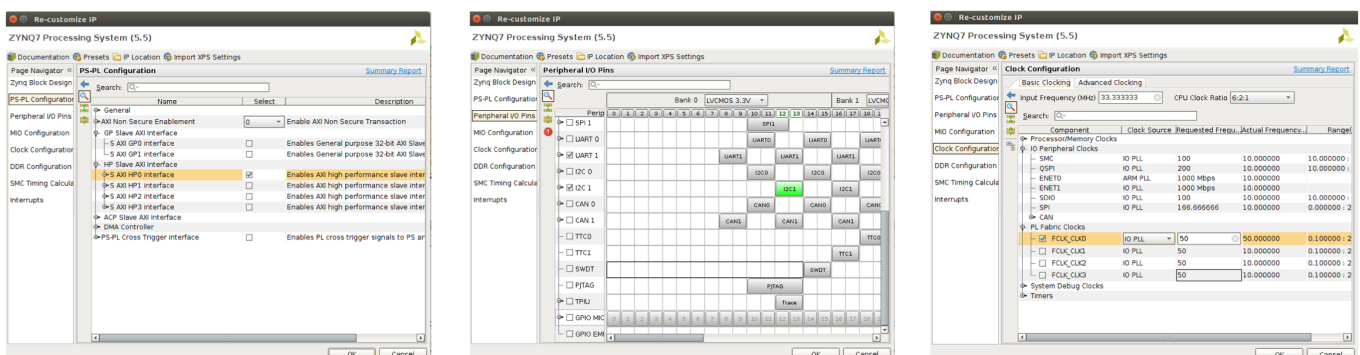

Figure 6: Zynq Wizard a)PS-PL Configuration b) Peripherals c)Timing
- Click on PS-PL Configuration -> HP Slave Axi Interface and De-select S AXI HPO INTERFACE (Figure 6 a))
- Click on Peripherals I/O Pins and leave ticked only the peripherals which we are using (Figure 6 b):
- Clock Configuration. Select only FCLK_CLK0 and change its value to 50 MHz. (Figure 6 c))